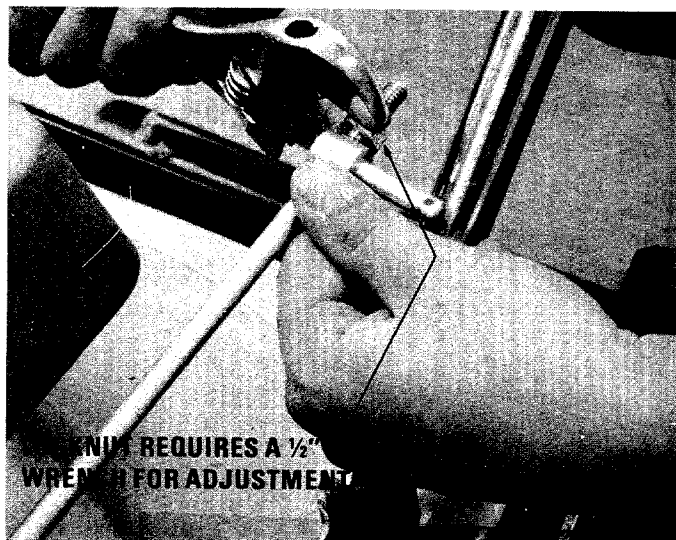

FIGURE 8.
2. Pull ferrule out of the handle. See figure 8.
3. Unscrew locknut and ferrule toward end of the rod, to increase the engagement. See figure 8.
4. Place ferrule back into handle and secure with hairpin cotter. See figure 8.